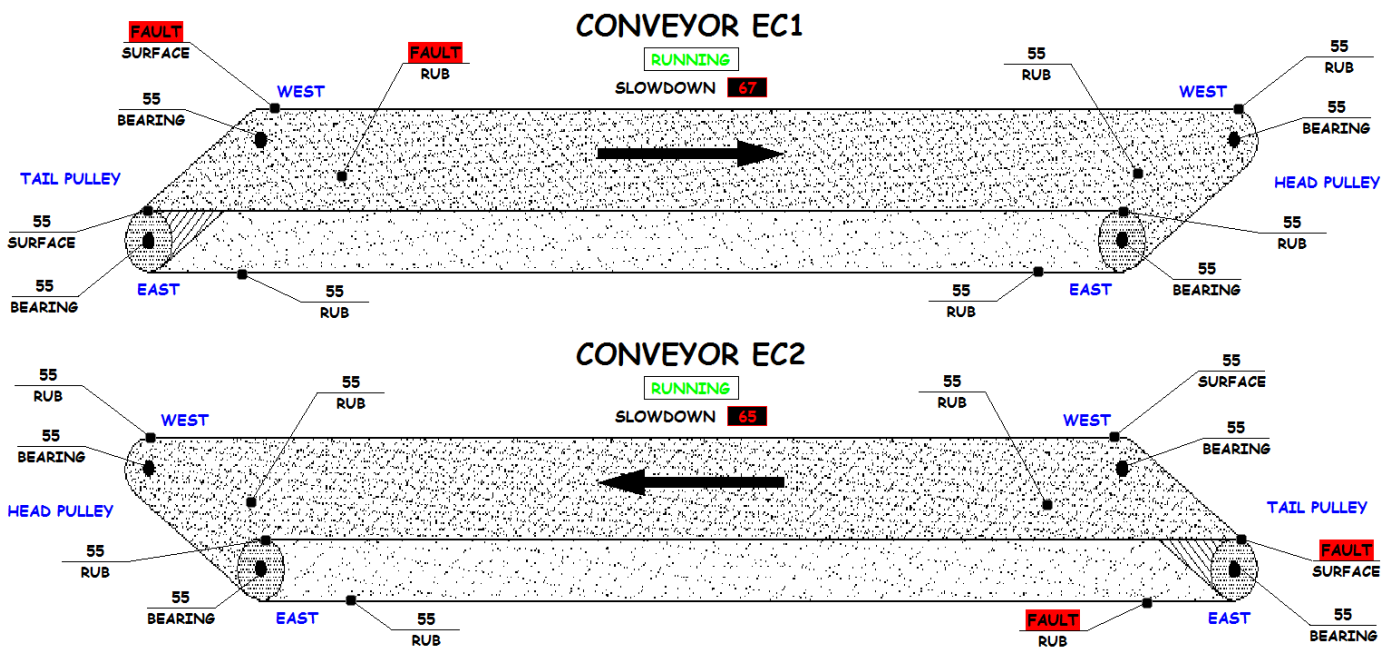

Figure 4 - Showing Hazard Monitoring Screens with Faulted Sensors.
- If any point fails to return a valid reading that point will flash RED and display "FAULT" (Figure 4). This indicates that the sensor has been damaged or is faulted.